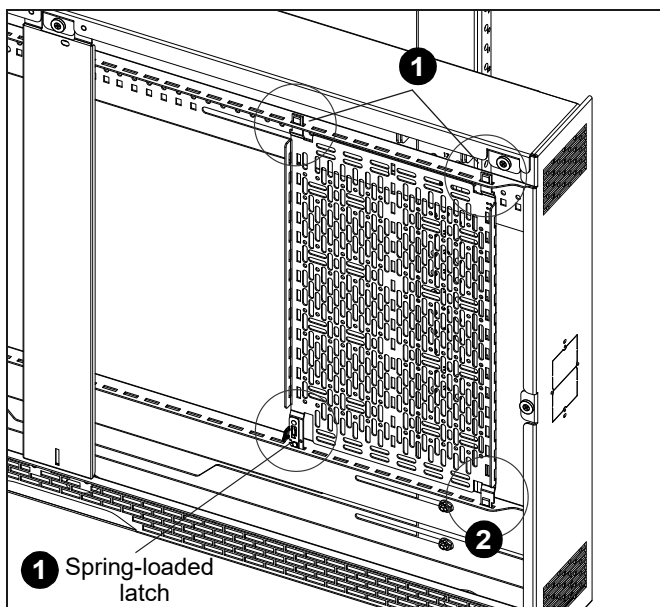

Figure 18
1. Squeeze the spring-loaded latch on lower end tabs of the storage panels (M) and slide the panel end without latches up into the slots on one side of the rear frame opening.
2. Pivot panel in and slide it down toward the slots on lower side of the rear frame panel opening. The panel will snap into the slots, securing it to the rear frame. (See Figure 18)